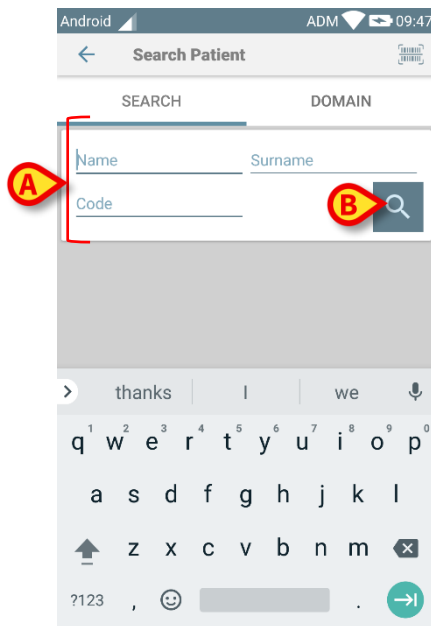

Fig 174
- Insert patient data in the fields indicated in Fig 174 **A** (name, surname, code), then click the **Search** button (Fig 174 **B**). Partial information is allowed.